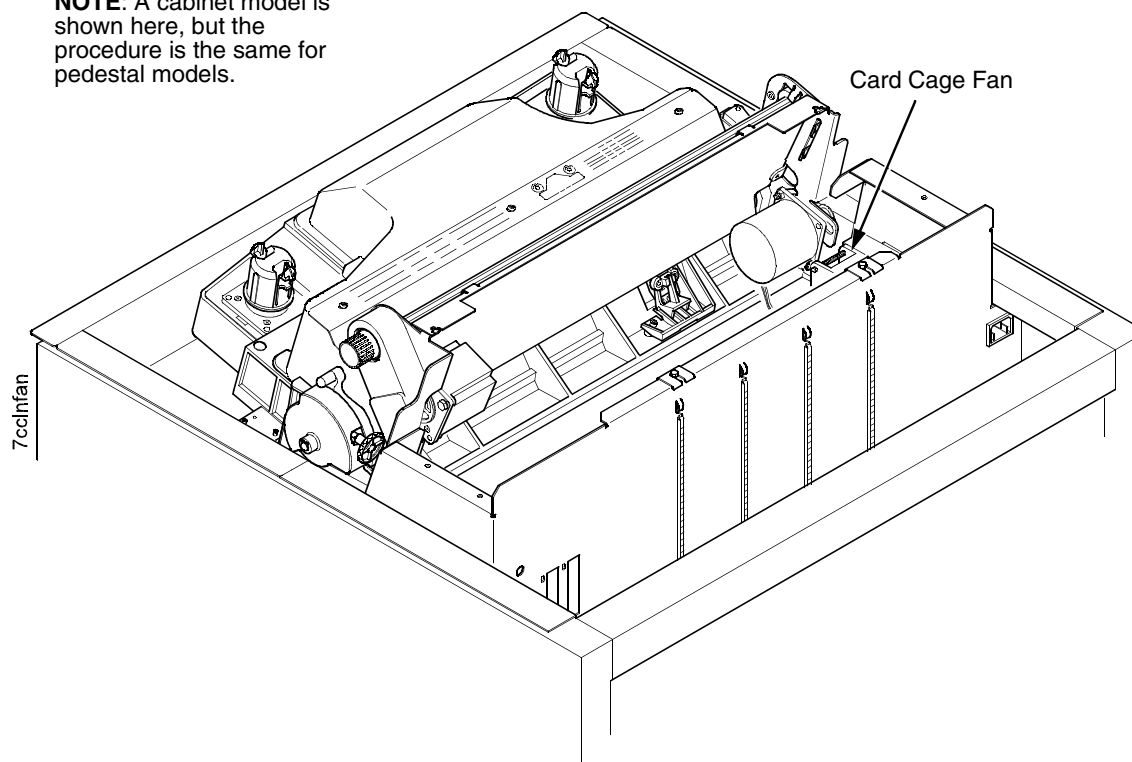

Figure 7. Cleaning the Card Cage Fan Assembly
2. Vacuum the card cage fan assembly and surrounding areas to remove paper particles, dust, and lint. (Figure 7.)